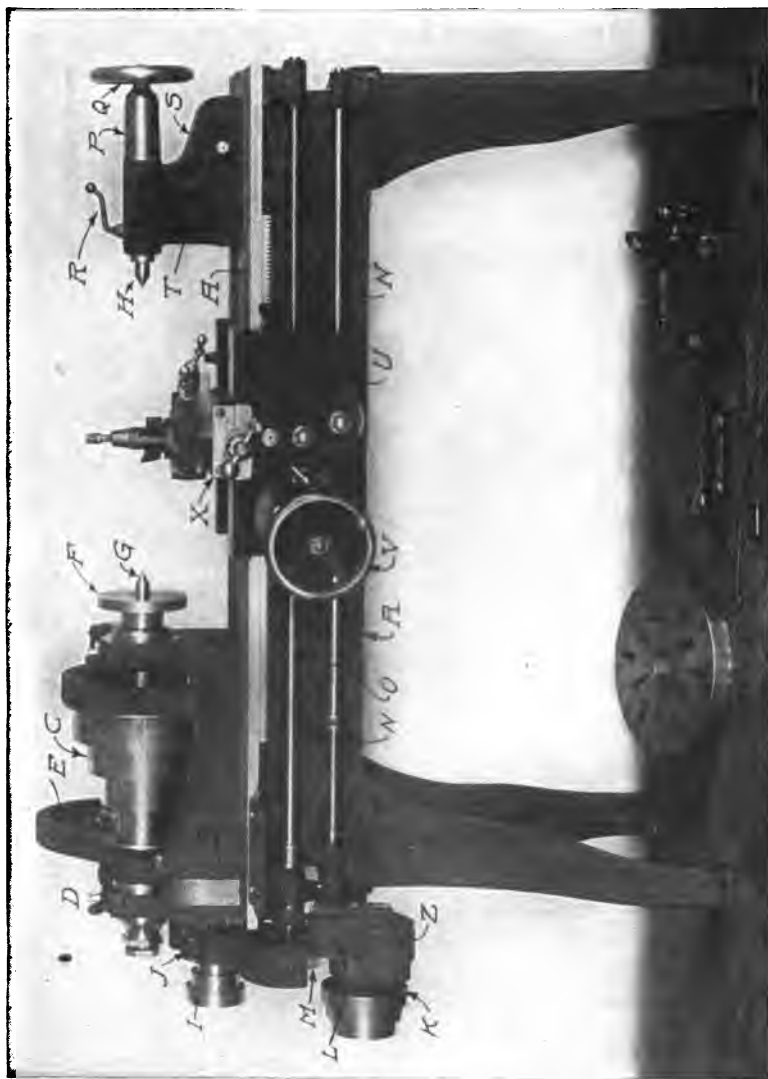

Fig. 63. Typical Engine Lathe
**Characteristics.** Of course the most important power machine in a motor-car repair shop is the lathe. In this discussion, the engine lathe only will be considered in its simple form, or modifications of it, as shown in Fig. 63. The lathe is capable of handling a great variety of work. There are four main parts in the ordinary engine lathe: bed *A*, headstock *B*, tailstock *S*, and carriage *X*. The bed is the bench, or foundation, upon which the rest of the machine is supported. Placed on top of the bed are what are known as shears, which are really tracks upon which the moving parts ride. There are two pairs of these shears, and the headstock and tailstock rest upon the inside pair and the carriage on the outer pair. The headstock con-
**Lathe Equipment.** *Headstock and Spindle.* The headstock is fastened on the left hand of the bed and carries the main running gear of the lathe. At each end of the headstock there is a bearing for the spindle. The right end of the spindle is threaded to carry the face plate *F*, Fig. 63, and is recessed to receive the live center *G*. The dead center *H* is mounted in the tailstock. The work is mounted between these centers, the left end of the work being held by a dog which is fastened to the face plate to keep the work from slipping.